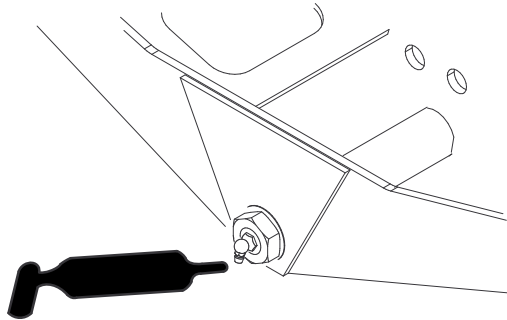

Figure 43
- Axle-steering pivot (1) (Figure 43)